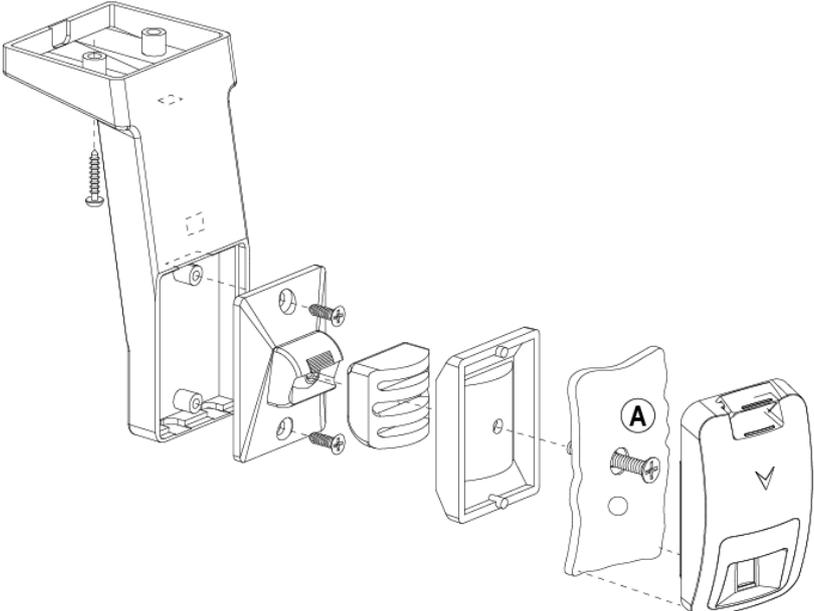

Figure 4. Ceiling Mounting
3. Assemble the bracket as shown in Figure 4.